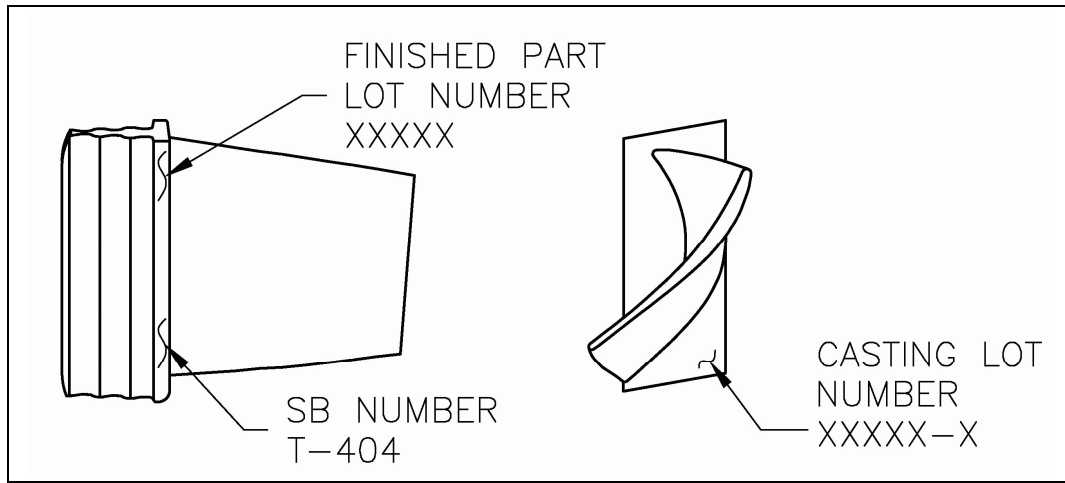

FIGURE 1: PART MARKING LOCATIONS
- Casting Lot Number: Located on the top of the platform. The casting lot number can be inspected while the blade is assembled in the turbine wheel. See Figure 1.
- Finished Part Lot Number: Located below the platform on the low-pressure side of the blade toward the leading edge. See Figure 1.
- SB Number: Located below the platform on the low-pressure side of the blade toward the trailing edge. See Figure 1.